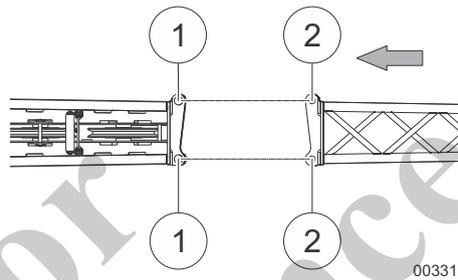

Fig. 158 Hoisting the fly boom extension to the fly boom
13	Align the fly boom extension with the fly boom head. The holes on the fly boom extension (2) in Fig. 158 must be aligned with those of the fly boom (1) in Fig. 158.